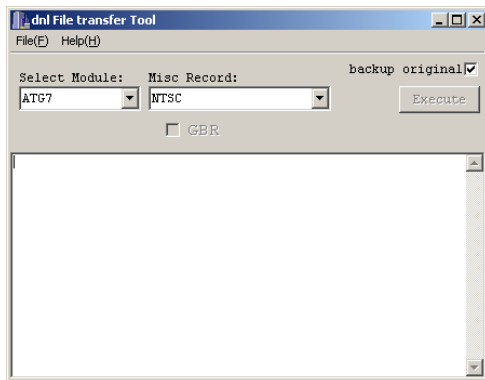

Figure 11 TgDNL Initial Window
- With the start-up of TgDNL, the initial window opens (refer to Figure 11).